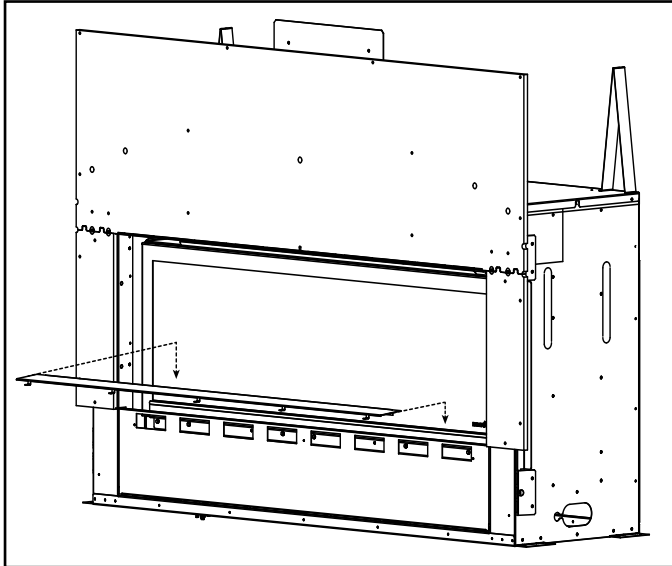

Figure 11.19 Install Bottom Vanity Panel
10. Install bottom vanity panel between glass and glass frame. See Figure 11.19.